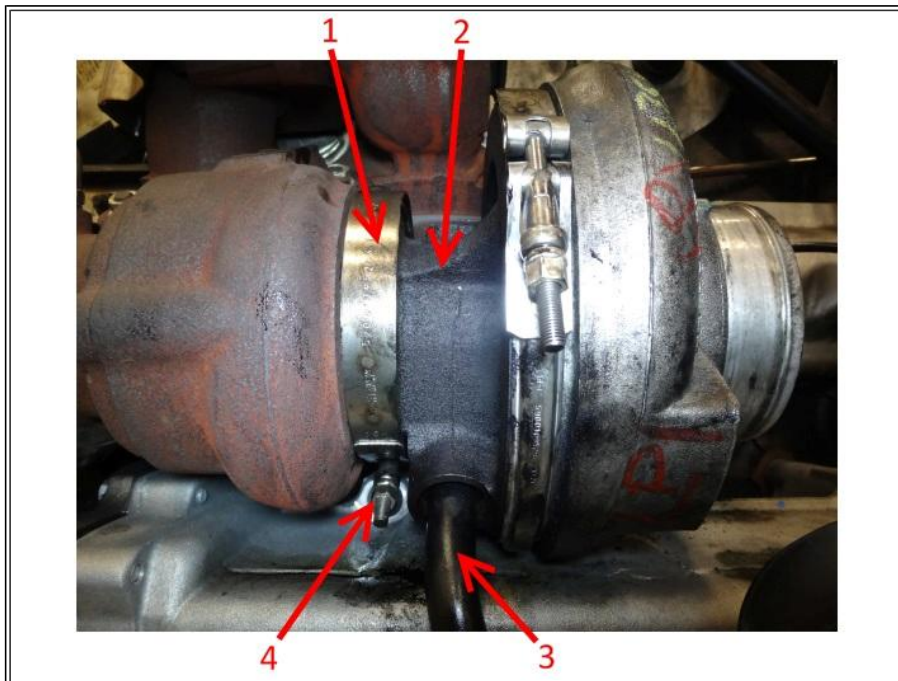

Figure 3: Oil Supply Tube at Oil Cooler Housing
4. Loosen LP Turbocharger V-Band Clamp (**Figure 3**, Item 1).
5. Using a rubber mallet, tap LP turbocharger center section (**Figure 3**, Item 2) until loose and remove from turbine housing and oil drain tube (**Figure 3**, Item 3).
Before removing the LP turbocharger center section note the position of the turbine clamp (Figure 3, Item 2) for installation on vehicle. If the clamp is not in the same orientation it may contact or interfere with turbocharger oil supply tube installation.